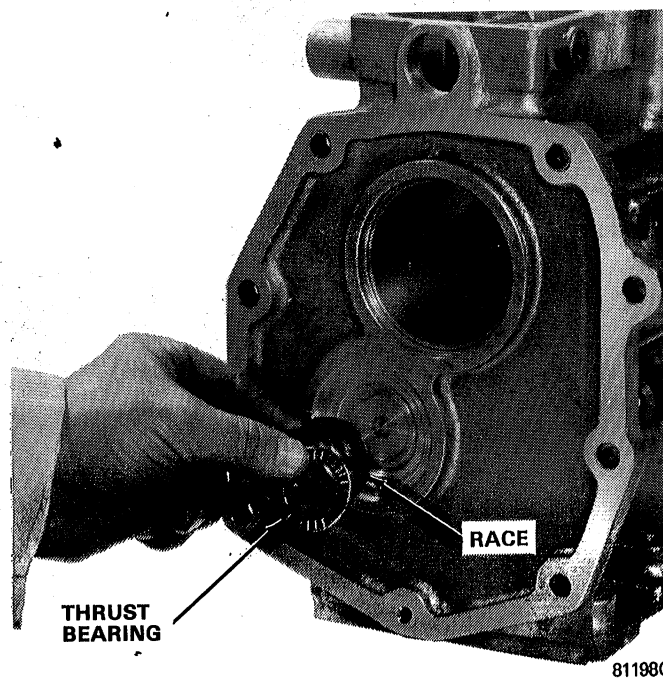

Fig. 2B-8 Countershaft Rear Thrust Bearing and Race Removal/Installation
(18) Remove reverse idler shaft roll pin using hammer and pin punch (fig. 2B-19).